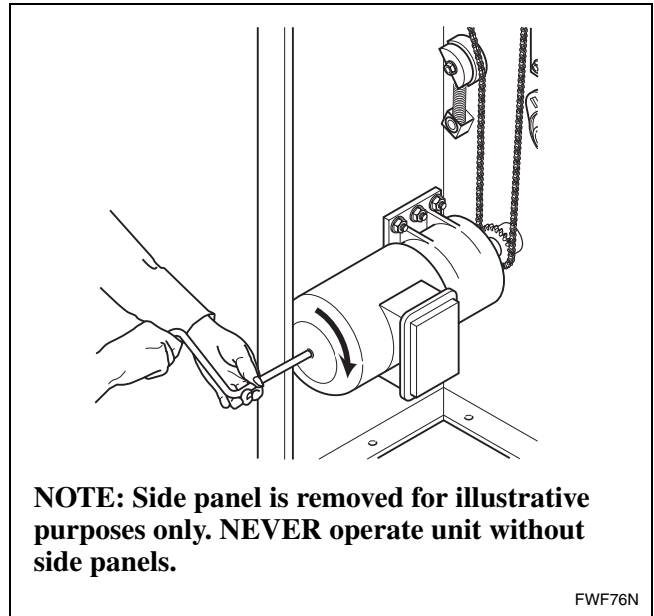

Figure 10
2. Turn the crank clockwise to rotate the cylinder. Refer to *Figure 10*.